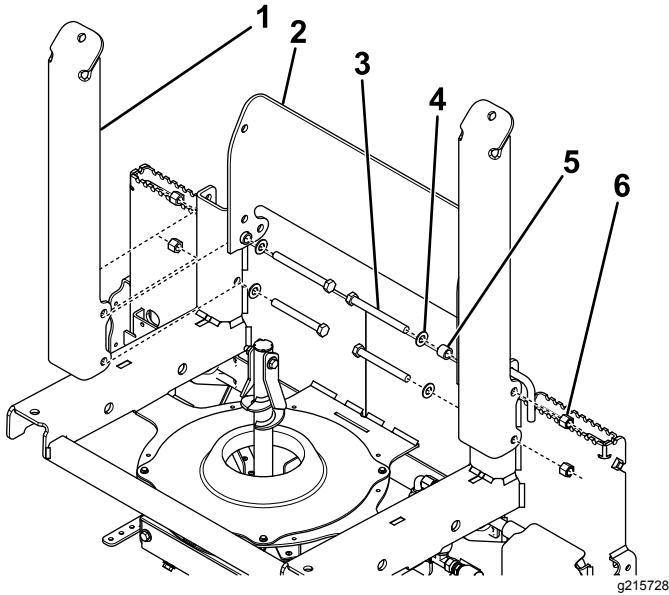

Figure 3
1. Secure a straight fork and 1 side of the cube stop to 1 of the fork supports using 2 bolts (1/2 inch), 2 washers (1/2 inch), 1 bushing, and 2 nylon locknuts (1/2 inch) as shown in Figure 3.